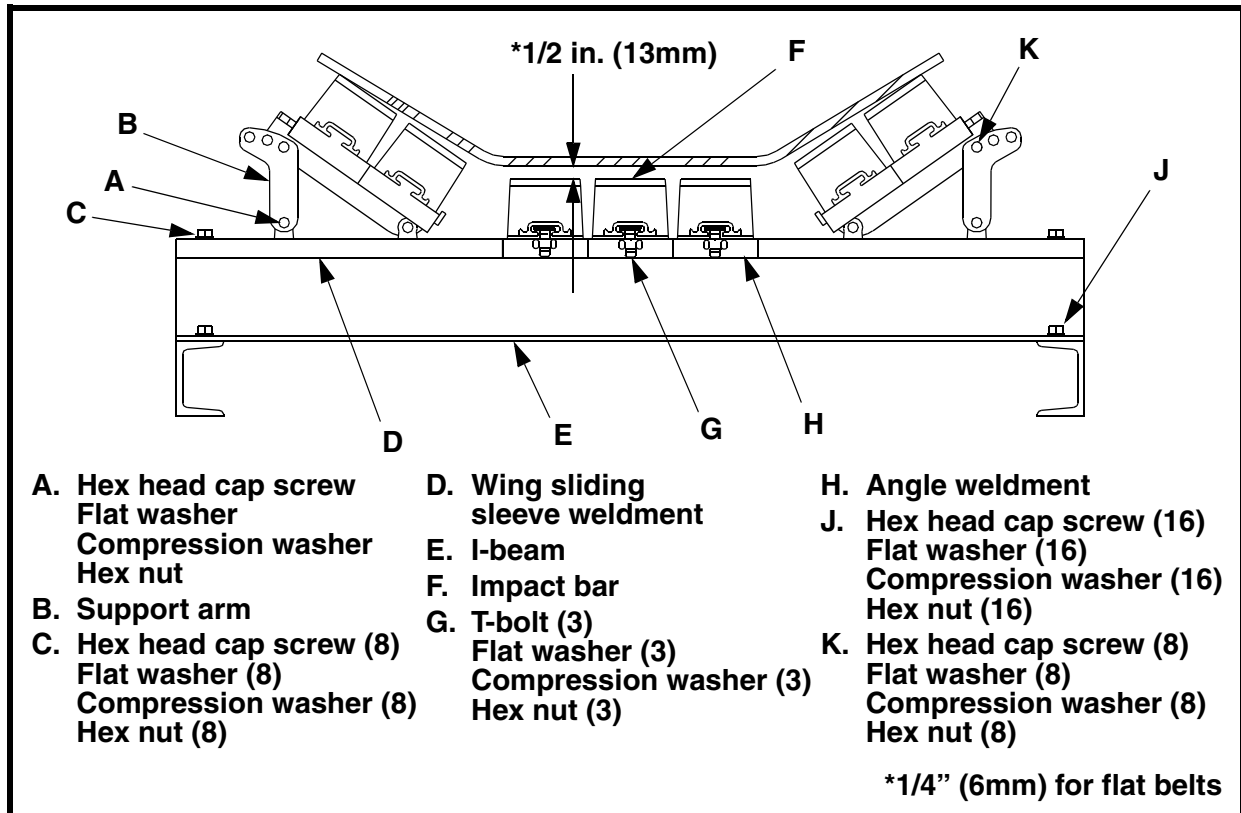

Figure 2. Installing Martin® Trac-Mount™ Impact Cradle (troughed belt shown)
1. To *lay down* wing section of impact cradle, remove hex head cap screw, flat washer, compression washer, and hex nut (A, Figure 2) from each support arm (B).
2. To *remove* wing section of impact cradle, remove four hex head cap screws, flat washers, compression washers, and hex nuts (C) from each wing sliding sleeve weldment (D). Slide wing section off I-beams (E).
3. Make sure distance from top of center bar to bottom surface of belt measures 1/2 in. (13 mm) maximum (see Figure 2). If distance is greater than this, add shims under I-beams to raise impact cradle to height of adjacent idlers. If distance is less than this, contact Martin Engineering or a representative.
4. For troughed belts, make sure clearance between belt and wing section is 1/2 in. (13 mm) where wing section meets base, and tapers to no clearance between belt and wing section at outside edge (as shown in Figure 2).
- a. If bolting, drill or cut 9/16-in. holes in stringers through mounting holes in feet of each I-beam. Install hex head cap screw, flat washer, compression washer, and hex nut (J, Figure 2) in each hole to secure I-beams to stringers.
- c. Remove three T-bolts, flat washers, compression washers, and hex nuts (G, Figure 2) from underneath each impact bar (F).
- d. Lift impact bars off angle weldment (H).